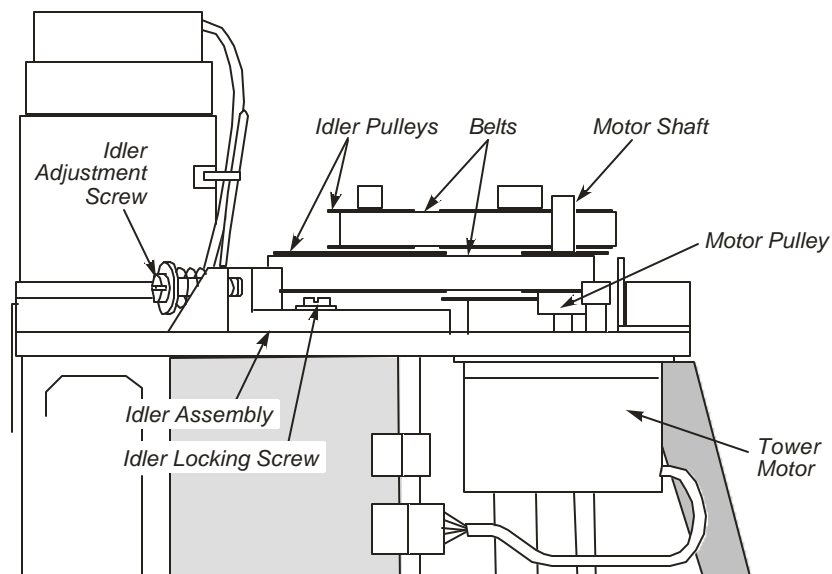

Figure 6- 39 Location of Idler Assembly, Belts, and Pulleys.
5. Loosen the idler locking screw (see Figure 6-).